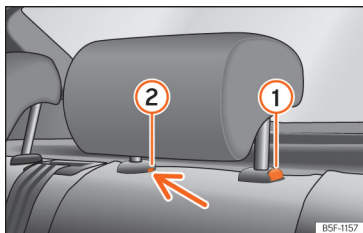

Fig. 97 Rear head restraint: removal.
- Press button »» Fig. 97 ①, while simultaneously pressing on the safety hole ② with a flat screwdriver a maximum of 5 mm wide, and remove the headrest.